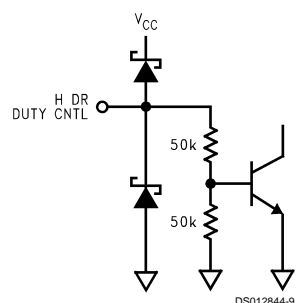

FIGURE 9.
**Pin 13—H DR DUTY CNTL:** A DC voltage applied to this pin sets the duty cycle of the horizontal drive output (pin 19), with a range of approximately 30%–70%. 2V sets the duty cycle to 50%. See *Figure 9* for the input schematic.